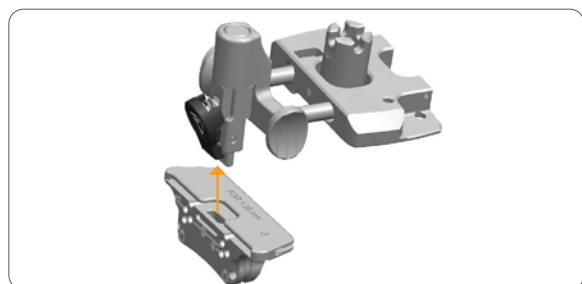

Figure 68
2. Attach the Distal Femoral Cutting block onto the Fixed Valgus Bridge (**Figure 68**).